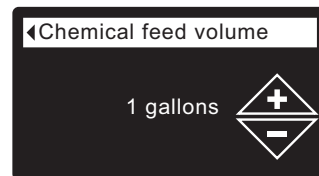

FIG. 143
7. Press the SELECT (O) button to display the Chemical feed volume or Chemical feed timer menu (See Figures 143 & 144).